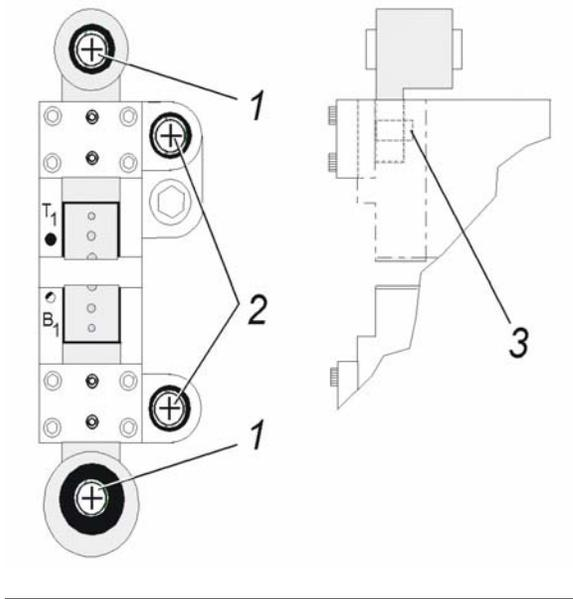

Figure 23 Die Block Assembly Lubrication
- a. Generously apply 5 weight oil (3-in-1) to all sides of the slide and crank pin (Figure 23, Item 3), working in thoroughly.